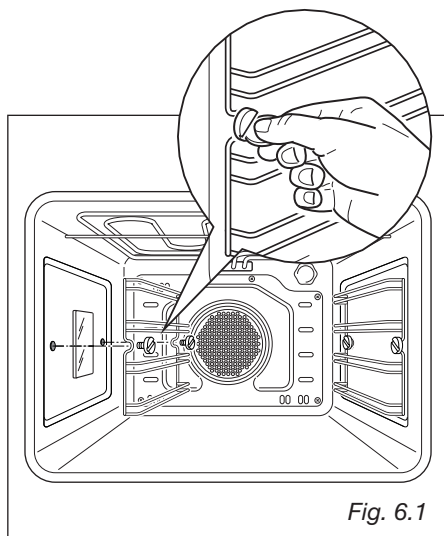

Fig. 6.1
- Assemble the wire racks to the oven walls using the 2 screws (Fig. 6.1).
- Screw the side racks onto the oven wall (Fig. 6.1).